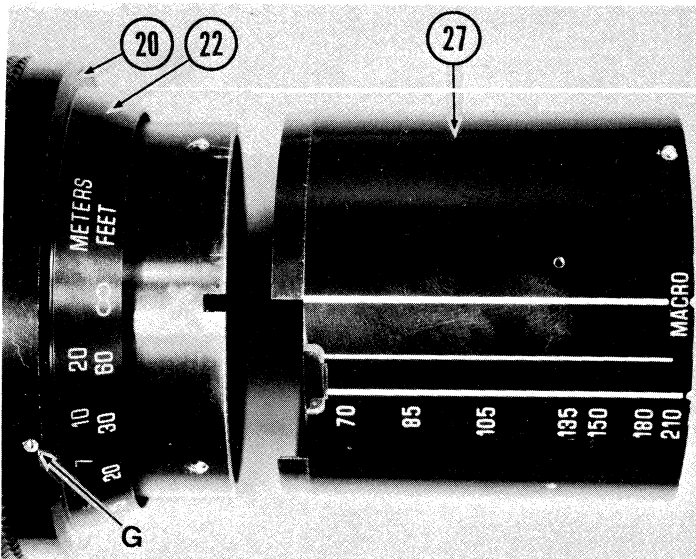

Fig. 7
- 2.1.1 Slide Shift Ring (27) off toward rear of lens. (Fig. 7)
- 2.1.2 Loosen three setscrews (G) near rear edge of Zoom Collar Ring (20), which secure it to Zoom Ring (22). (Fig. 7)